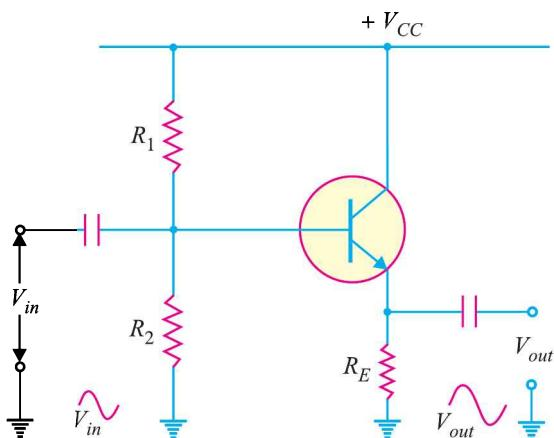

Fig. 13.12
**Circuit details.** Fig. 13.12 shows the circuit of an emitter follower. As you can see, it differs from the circuitry of a conventional *CE* amplifier by the absence of collector load and emitter bypass capacitor. The emitter resistance  $R_E$  itself acts as the load and a.c. output voltage ( $V_{out}$ ) is taken across  $R_E$ . The biasing is generally provided by voltage-divider method or by base resistor method. The following points are worth noting about the emitter follower :
The d.c. analysis of an emitter follower is made in the same way as the voltage divider bias circuit of a CE amplifier. Thus referring to Fig. 13.12 above, we have,